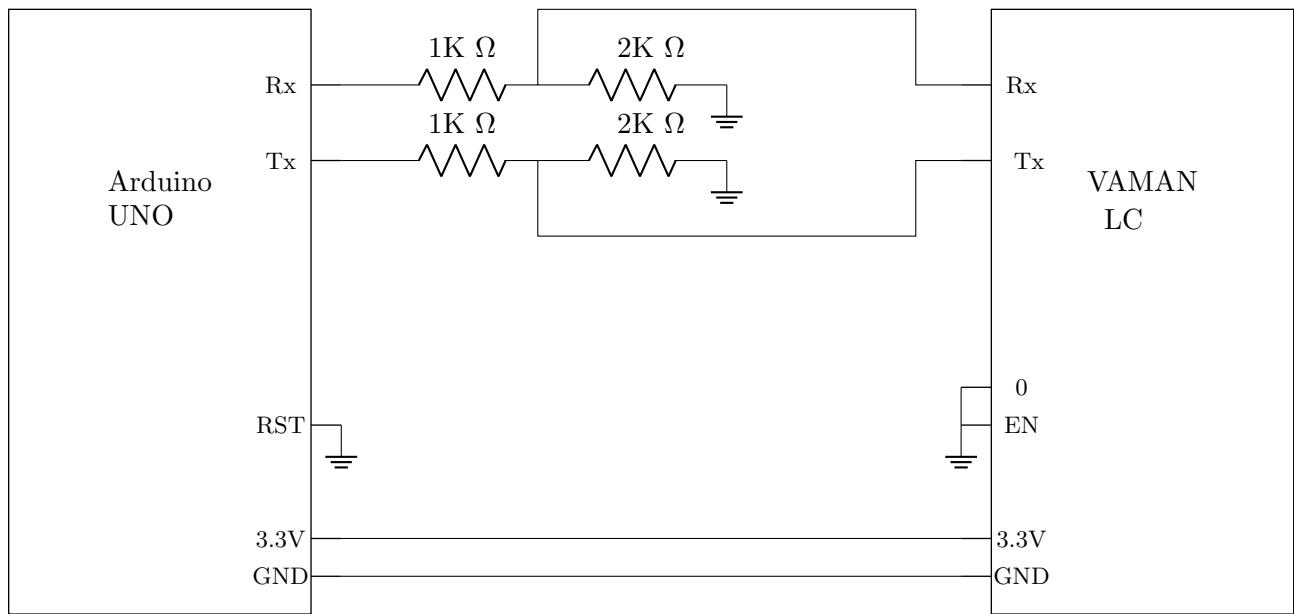

Figure 11.2.1.1: Circuit Connections
11.2.1. Do not power any devices. Make connections as shown in Table 11.2.1.1 and Fig. 11.2.1.1.